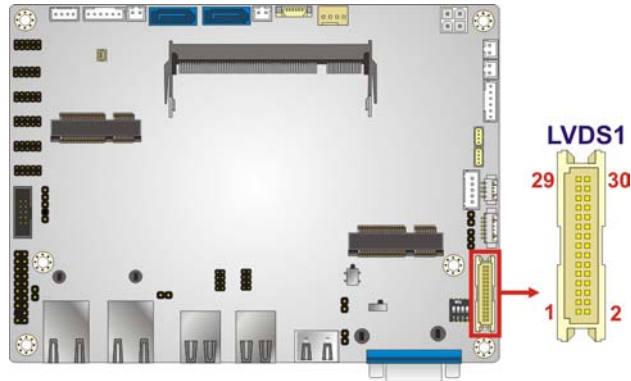

Figure 3-15: LVDS Connector Location
- CN Location:See **Figure 3-15**